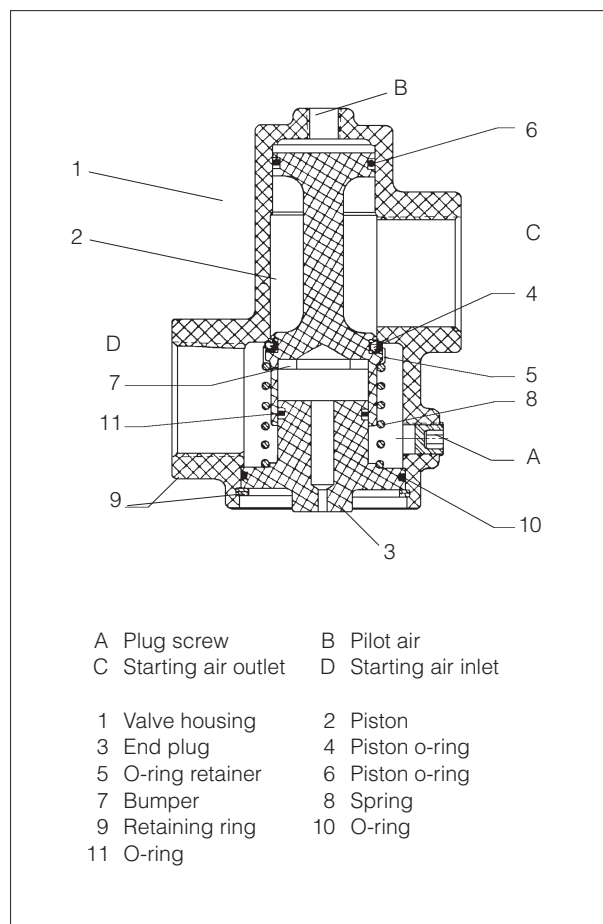

Fig 1. Main starting valve.
- 2) Remove the plug screw (A), *see fig 1* and squirt about 30 g of 10 w oil into the valve through the plug opening.